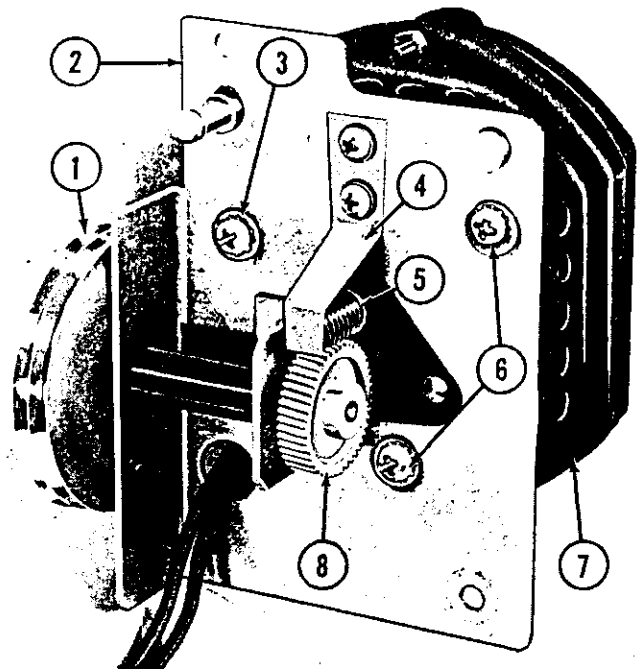

Fig. 93. TURNTABLE DRIVE GEAR ADJUSTMENT
(3) Using a sensitive gram scale (0 - 10 grams) at the pick-up end of the tone arm, measure the swinging tendencies of the tone arm and adjust the balancing weight (Item 5) to bring the balance within the requirements as described above. The adjusting screw (Item 6) serves to move the balancing weight and bracket assembly in either direction as required.
x. Turntable Drive Gear Adjustments. (Fig. 93)
The turntable drive gears must operate freely at all times. The tension of the thrust spring (Item 4, Fig. 93) against the ball bearing in the end of the rotor shaft should be $2-1/2$ to $3-1/2$ ounces. Adjust the mesh of the gear and worm to obtain minimum back lash without drag, as follows: